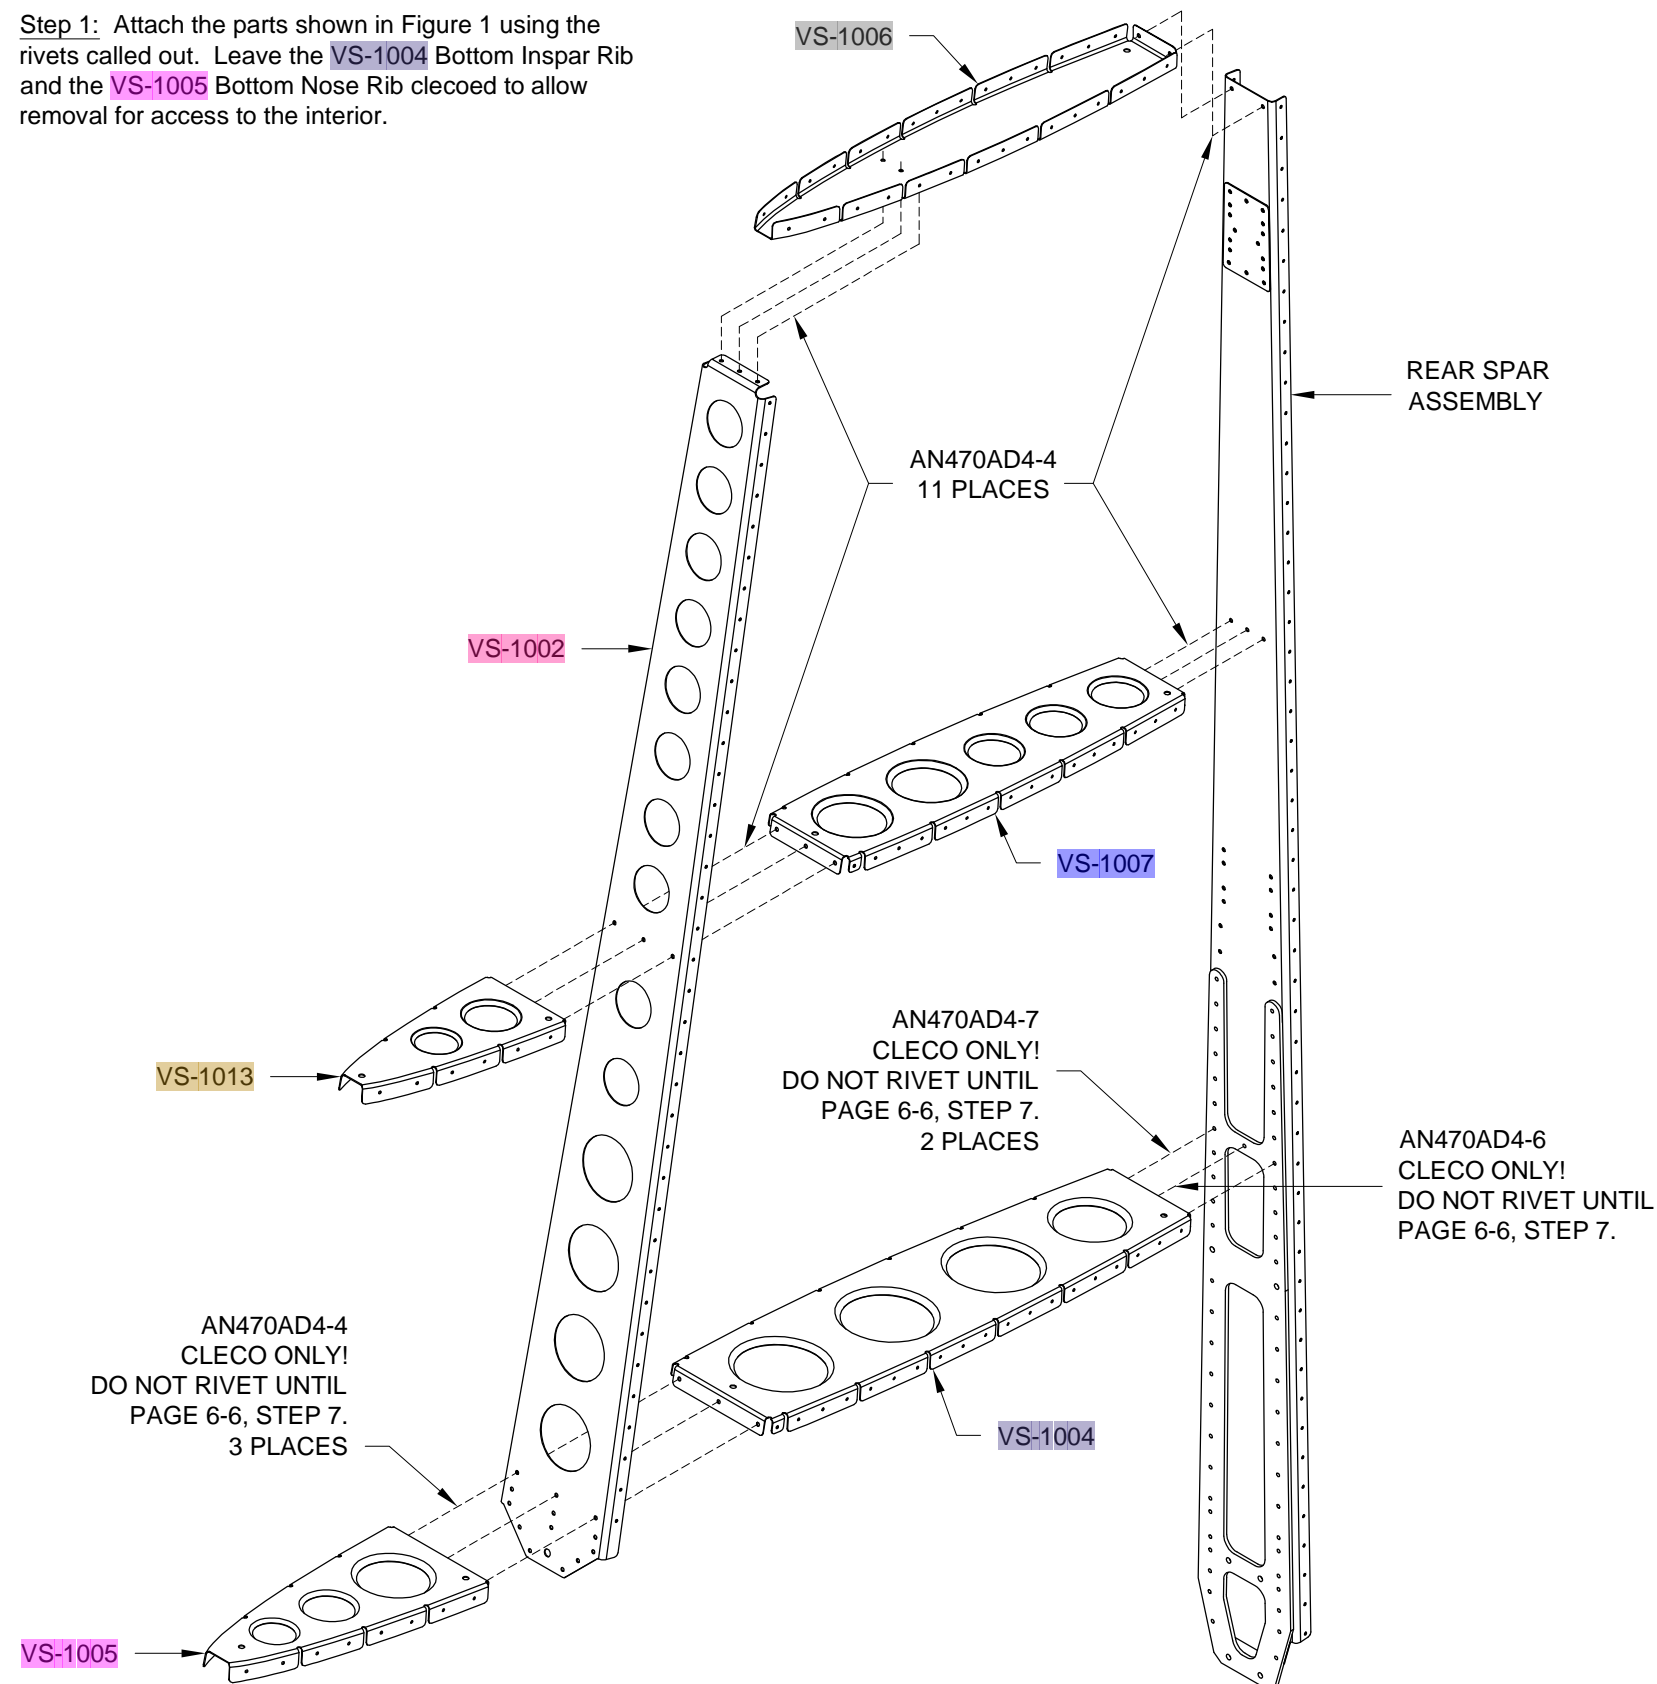

FIGURE 1: RIB RIVETS
Step 1: Attach the parts shown in Figure 1 using the rivets called out. Leave the VS-1004 Bottom Inspar Rib and the VS-1005 Bottom Nose Rib clecoed to allow removal for access to the interior.
Step 1: Cleco the **VS-1001** Vertical Stab Skin to the skeleton. Use plenty of clecos to keep the parts aligned while riveting. Figure 1 provides rivet sizes for the vertical stab skin.